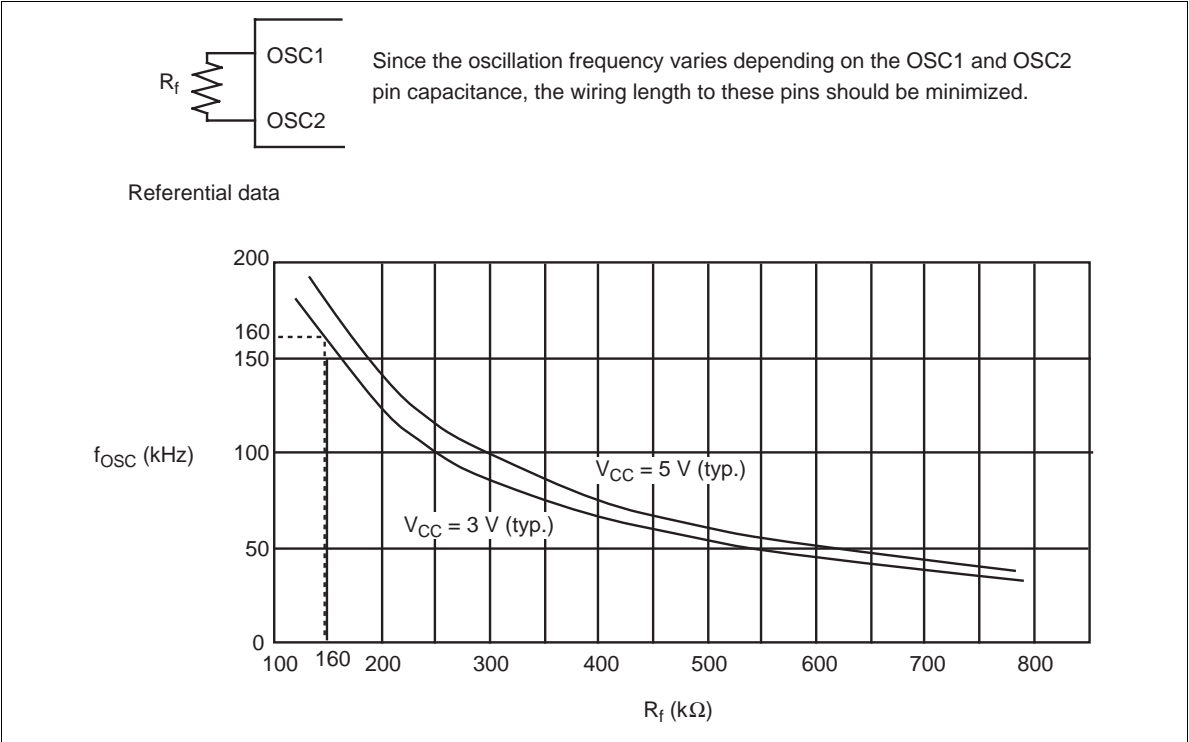

Figure 54 Internal Oscillation
14. Applies to the internal oscillator operations using oscillation resistor  $R_f$  (Figure 54).